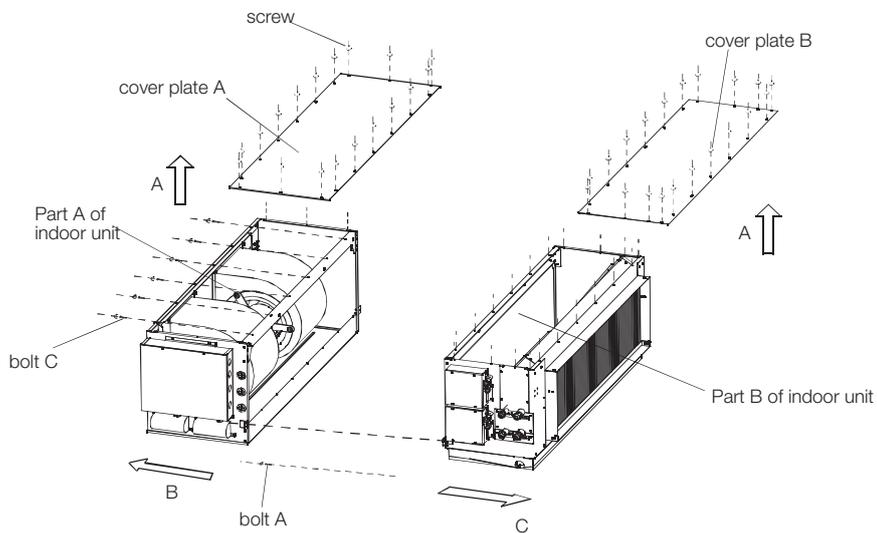

Fig.4-21
2. Following Fig.4-21 twist-off the screws, along the direction of A get off the cover plate A and cover plate B.